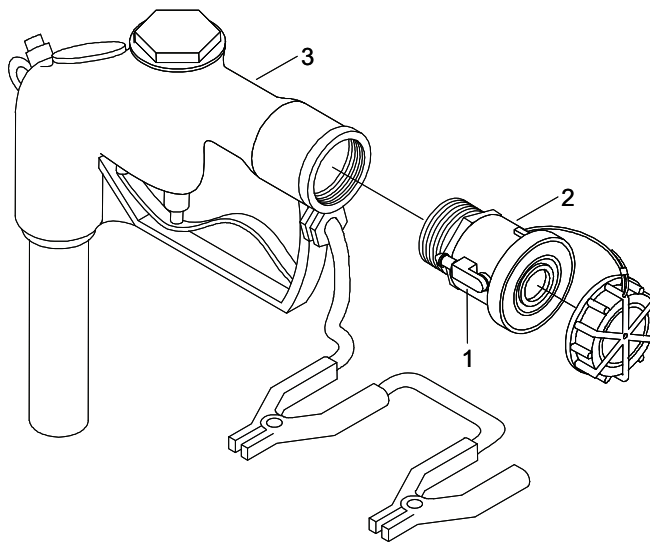

Figure 1. 1.5 In. Nozzle Assembly.
1. Position arm assembly (Figure 1, Item 1) to the closed position.
2. Use a strap wrench to remove (dry-break valve) coupling assembly (Figure 1, Item 2) from nozzle (Figure 1, Item 3).